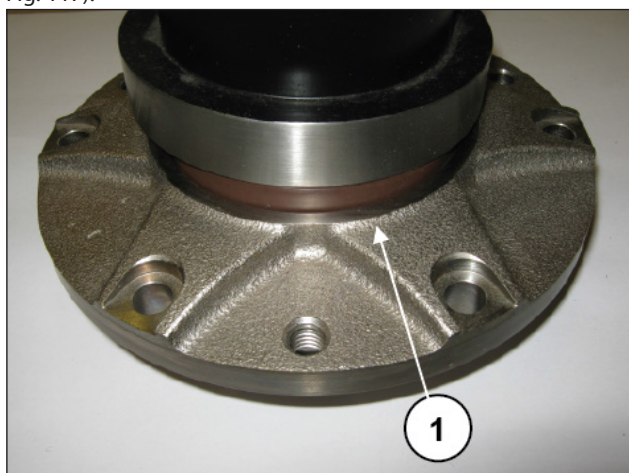

Fig. 117
Fit the radial seal ring into the PTO bearing cover (pos. ①, Fig. 117).